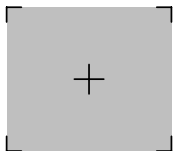

Figure 2-9 *Laser Aiming Pattern*
3. When the digital imager scanner senses movement, in its default **Auto Aim** trigger mode, it projects a red laser aiming pattern (shown in Figure 2-9) which allows positioning the bar code or object within the field of view. (To turn off the default **Auto Aim** trigger mode, see Trigger Mode on page 4-8.)